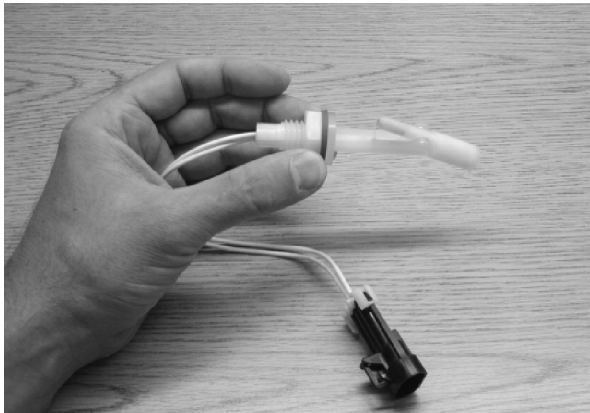

FIG. 3
1. Orient the float switch so the narrow end of the float mechanism is pointed up. Refer to Fig. 3.